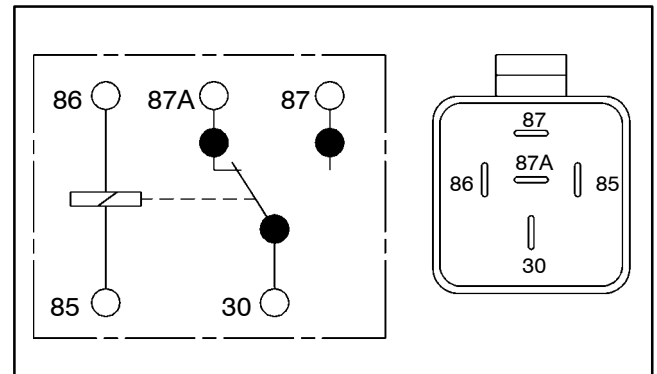

Figure 5
2. Using a multimeter (ohms setting), measure coil resistance between terminals 85 and 86 (Fig. 5). Resistance should be between 70 and 90 ohms.